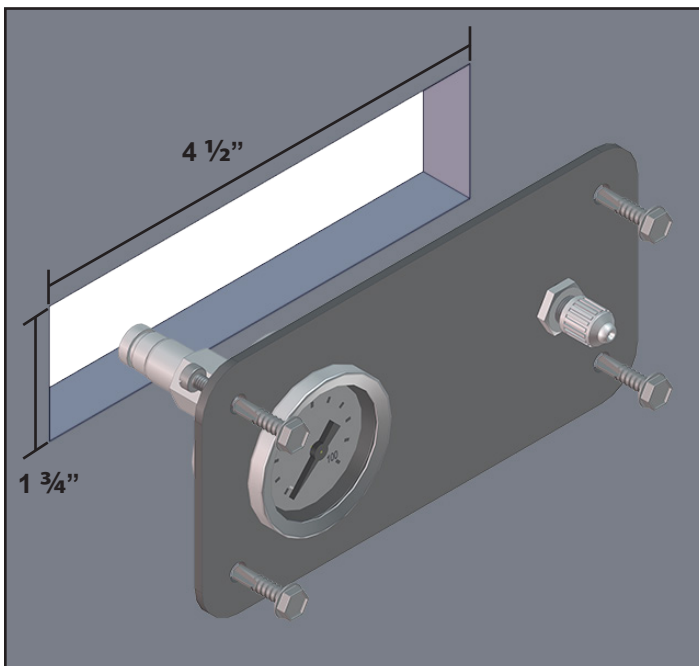

Fig.10
2. Determine the location of the assembly and, with a suitable tool, cut a $4\frac{1}{2}'' \times 1\frac{3}{4}''$ opening for the air gauge and the fill valve (**Fig. 10**).
4. 4. Install the assembly using (4) self-tapping screws through the holes in the panel.